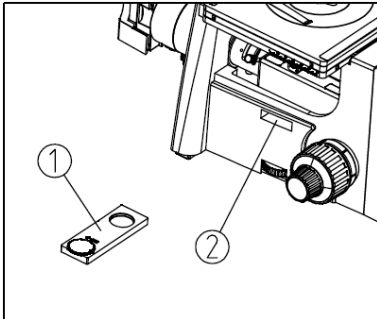

Fig.8
Insert the analyzer ① into hole ② on microscope stand with its face up to hear click. (Fig.8)